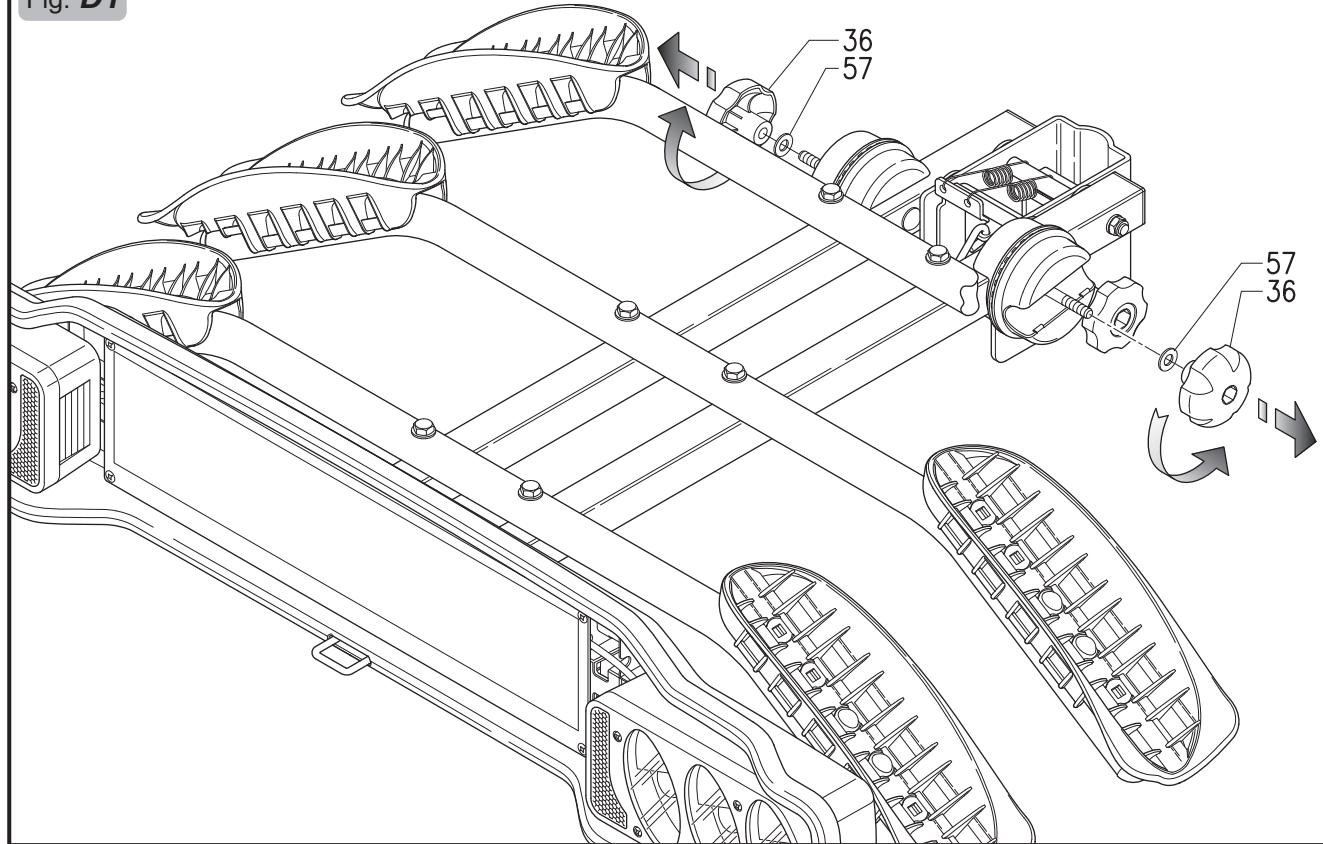

Fig. D2
- 2) Insert the end plugs **23** in the bike carrier bars **27** (Fig. A) and in the bike fixing arch **31** (Fig. D2).
- Carry out the operations **1-2** (Fig. D2);
- Place the bike fixing arch **31** in the half pipe of the tilt adjustment element **33**, then fix it with the washers **57** and the knobs **36** (Fig. D2).